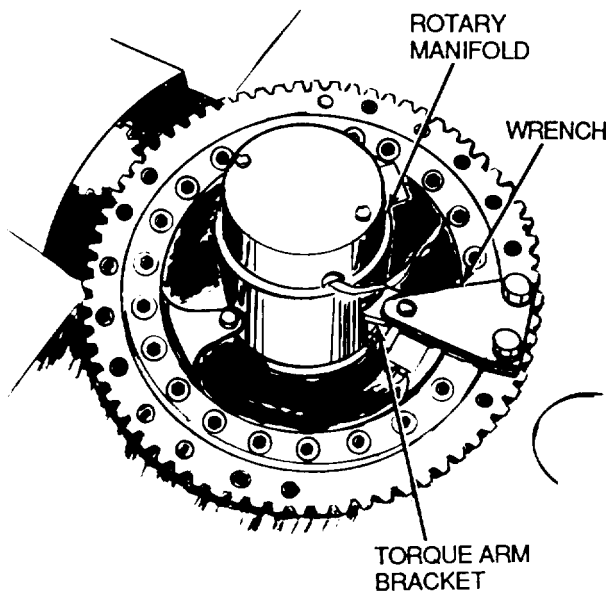

Figure 5-32 Rear Axle Oscillation
- e. Align left edge of wrench (Figure 5-32) with right side of lockout valve. Using a 36 mm socket and breaker bar, remove two capscrews and four washers attaching wrench to swing bearing and rotary manifold. Remove wrench and stow in tool box. Capscrews and washers will be installed at a later time.